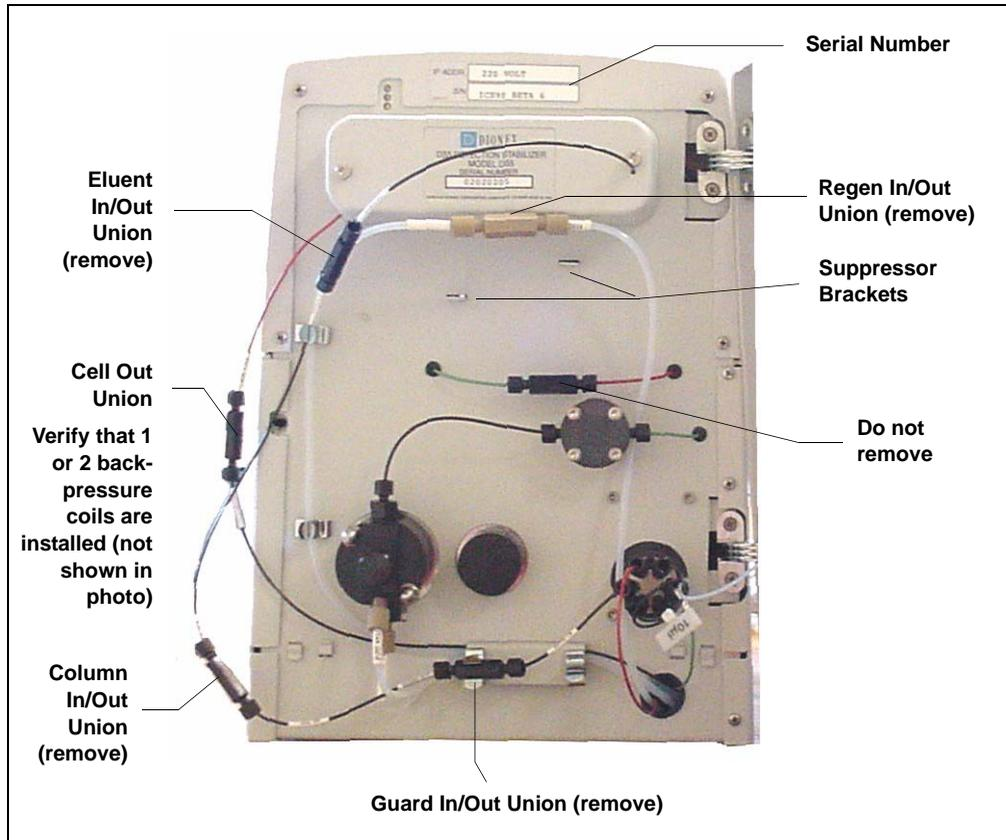

Figure 2-16. ICS-90 Component Panel (Door not shown)
5. On the **General** tab page, **Live Mode** is selected by default. Select the ICS-90 serial number from the drop-down list. If you are installing more than one ICS-90, you can verify the serial number for each system by checking the label at the top of the component panel (see Figure 2-16).
- Plumb the guard and separator columns. Refer to the labels on the tubing, to Figure 2-16, and to the following instructions.